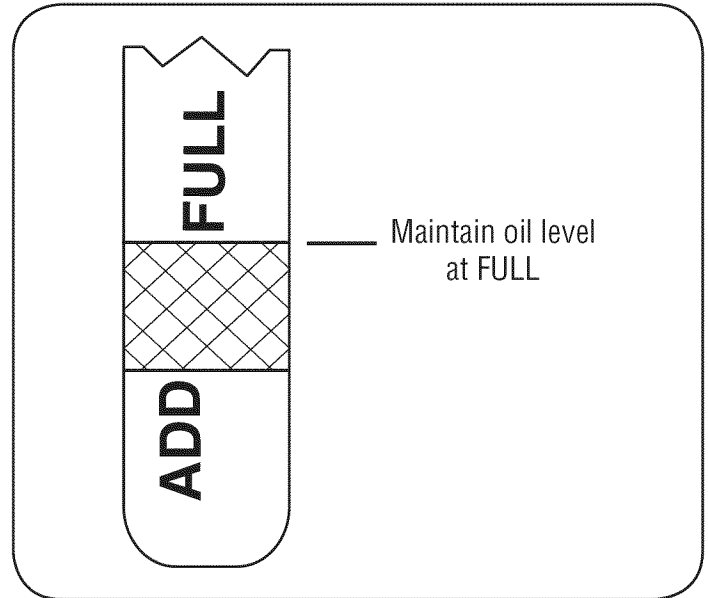

Figure 13
4. Unscrew and remove oil fill cap from oil filler tube. Note oil level. If oil reading on dipstick is below "ADD" mark, slowly add oil to reach "FULL" level. See Figure 13.
2. With engine OFF but still warm, remove oil drain plug and drain oil into an appropriate receptacle. See Figure 13.